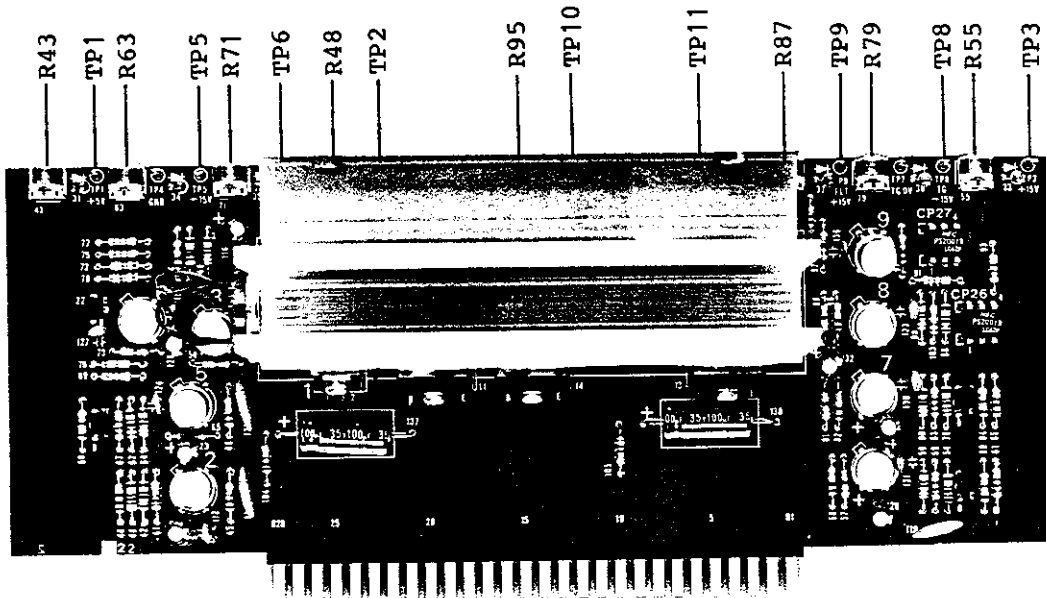

Fig. 11-36 Adjustment locations of power control board (BGF-011218)
- ① Set the POWER switch to ON, and measure voltages at each test point. Figure 11-36 shows locations of test points and adjusting controls.